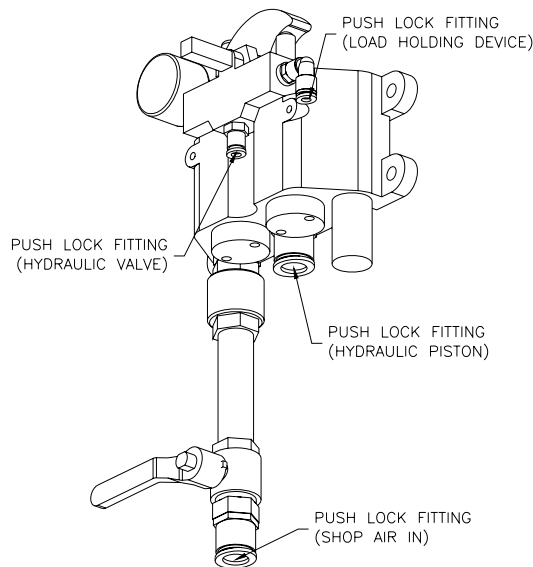

Fig. 8
21. The shop air supply must be clean, dry, lubricated, and regulated to 200 psi. The air supply must run through a Filter/Regulator/Lubricator (FLR) within 30 feet of factory assembled air valve. Failure to provide clean, dry lubricated and pressure regulated air will void warranty on pneumatic components. Push one 16mm and two 6mm airlines through the PVC chase beginning at the control unit. Connect the airline to the appropriate push lock fittings at each end. Refer to figure 8.